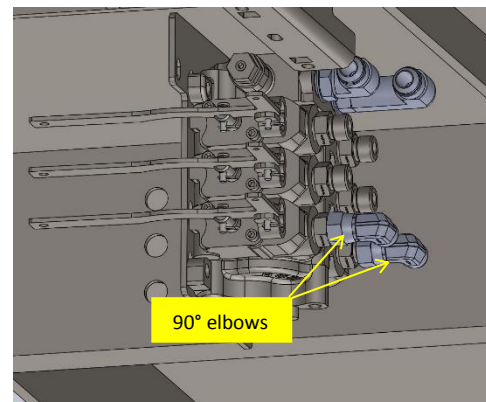

Figure 3
7. Connect the two (2) #8 JIC 90° elbows (**Item 3**) to the 3rd spool ports on the valve. Leave the fittings loose to aid in new quick coupler hose installation. Figure 3